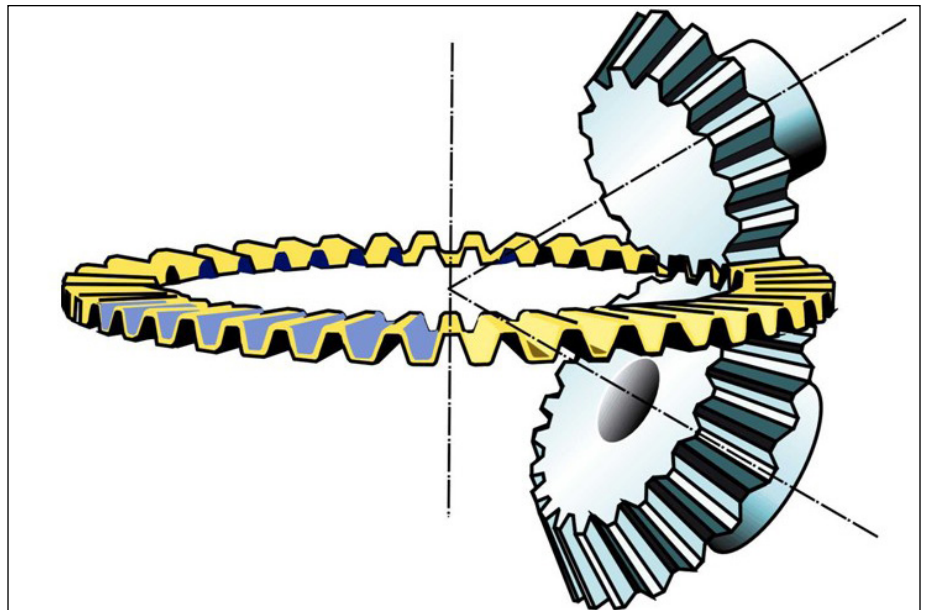

Figure 6—Ring-shaped generating rack with trapezoidal profile.
Like cylindrical gears, bevel gears also have a trapezoidal generating profile. The straight rack of cylindrical gears becomes a ring, as shown in Figure 6. It is required to establish certain conditions to make the ring rack the generating gear for a pinion and a ring gear that will mesh perfectly together with zero transmission error and line contact identical to cylindrical gears. Those conditions are postulated in the kinematic coupling requirements:
1. The flank surfaces of the generating gears of the two mating bevel gears are congruent (same shape but mirror images, as given in the example of Figure 6)
2. The generating gears of the two mating bevel gears require identical axes of rotation (the top and bottom of the generating gear in Figure 6 form the same generating gear, which rotates in both cases around the same axis and therefore satisfies condition 2)
the global condition in Figure 6 seems to satisfy this requirement)
the gear (at the bottom in Figure 6) while meshing with this gear perfectly. If the pinion is manufactured with the same generating gear but on the opposite side (at the top in Figure 6) and if the generating gear is imagined infinitely thin, then the result is a pinion that perfectly meshes with the gear having zero motion error. It is also given in such a case that line contact between the pinion and gear flank surfaces exists along the entire face width.
Coniflex Pro designed straight bevel gears are manufactured with peripheral cutters, where the tangent to the cutter tip circle is aligned with the root line of the tapered tooth, and the blade profile is aligned with the profile on one side of a generating gear tooth (Figure 6). With this process, it is required that, first, e.g., all left flanks are machined. In a second step, the cutter changes its orientation such that the blade profile aligns now with the second side of a generating gear tooth, and e.g., all right flanks are machined. This way, the generating roll, which is a rotation around the generating gear axis, is repeated for each slot twice. This kinematic condition satisfies the requirement from Figure 6 and fulfills the kinematic coupling conditions. Coniflex is the fastest straight bevel gear manufacturing process, although each slot is addressed twice to generate both flanks.